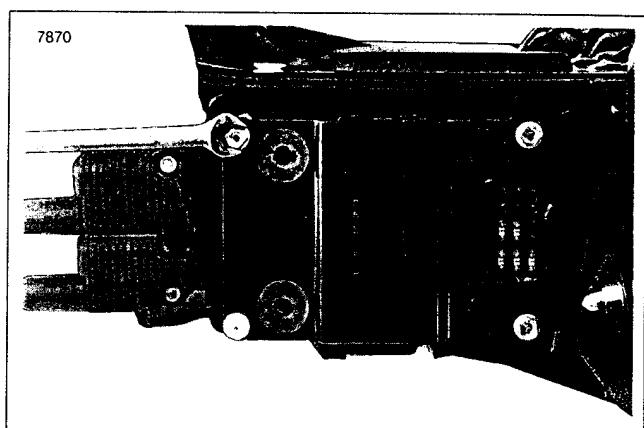

Figure 8-3. Removing/installing Top Plate
4. See Figure 8-3. Remove nuts on top plate.